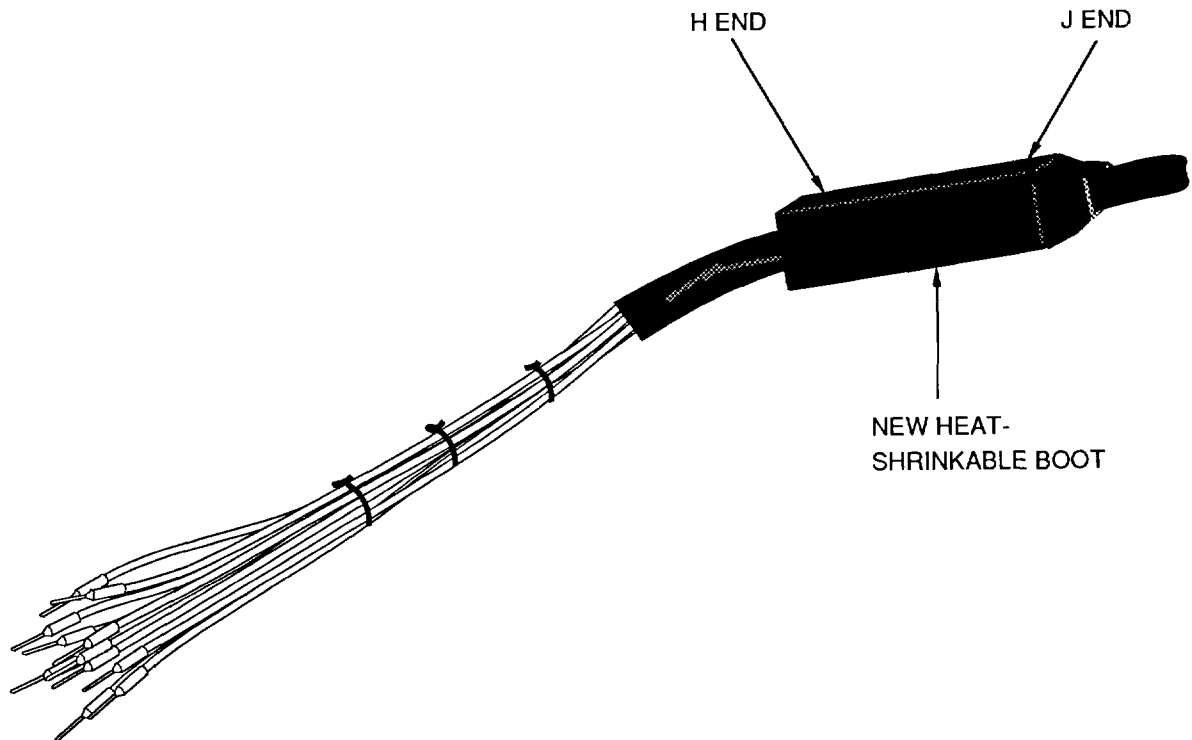

Figure 17. Installing New Boot
(2) For shielded adapters separate adapter shield from cable shield and remove adapter from cable.
(3) If shields are tied together with lacing cord cut cord and pull adapter from cable.
(4) If shields are tied together with wire whipping unsolder and unwrap wire.
(5) If shields are soldered together use infrared or hot air heating tool to melt solder while carefully pulling adapter.
a. Slide new heat-shrinkable boot back over cable, ensure the end marked J goes on first and the end marked H goes toward adapter (Figure 17)